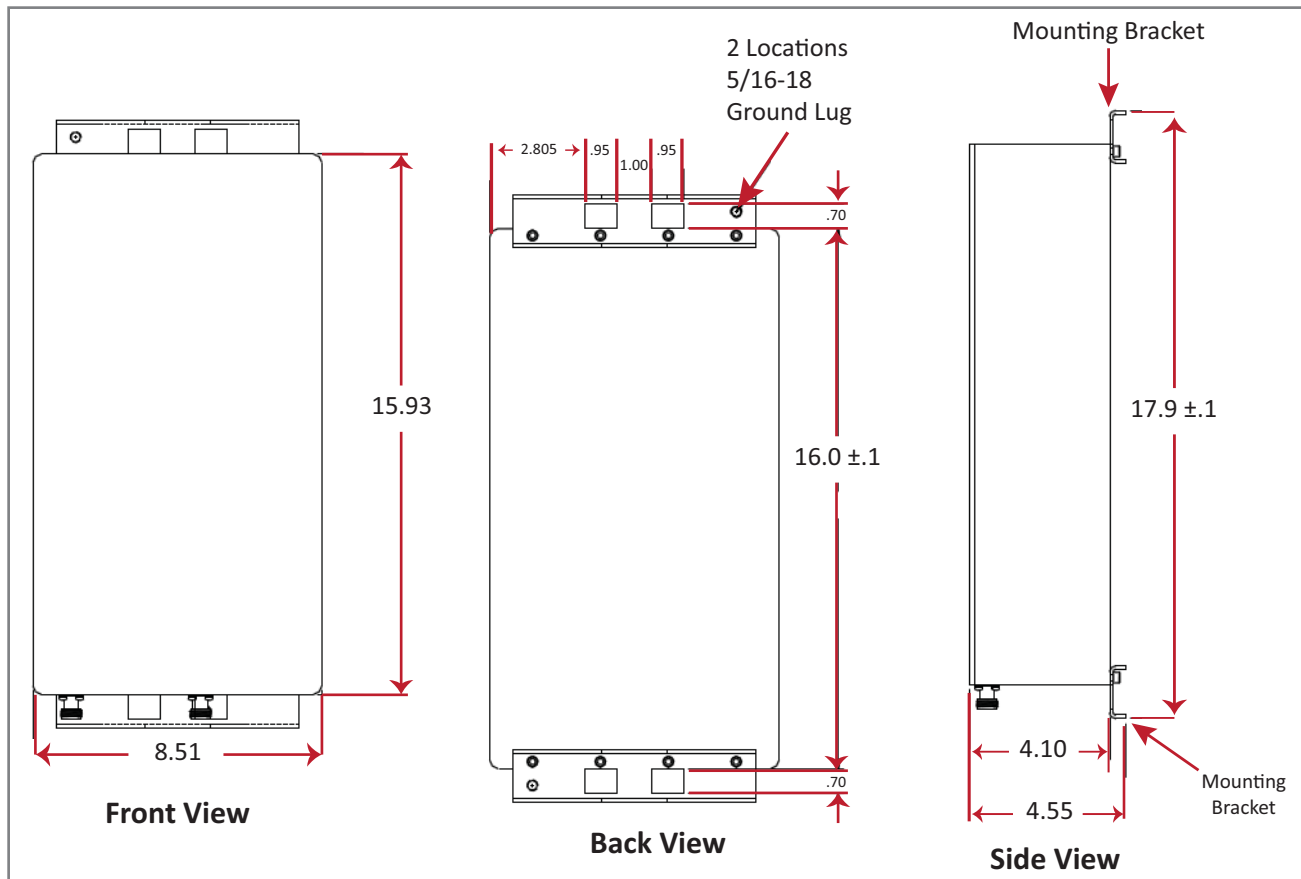
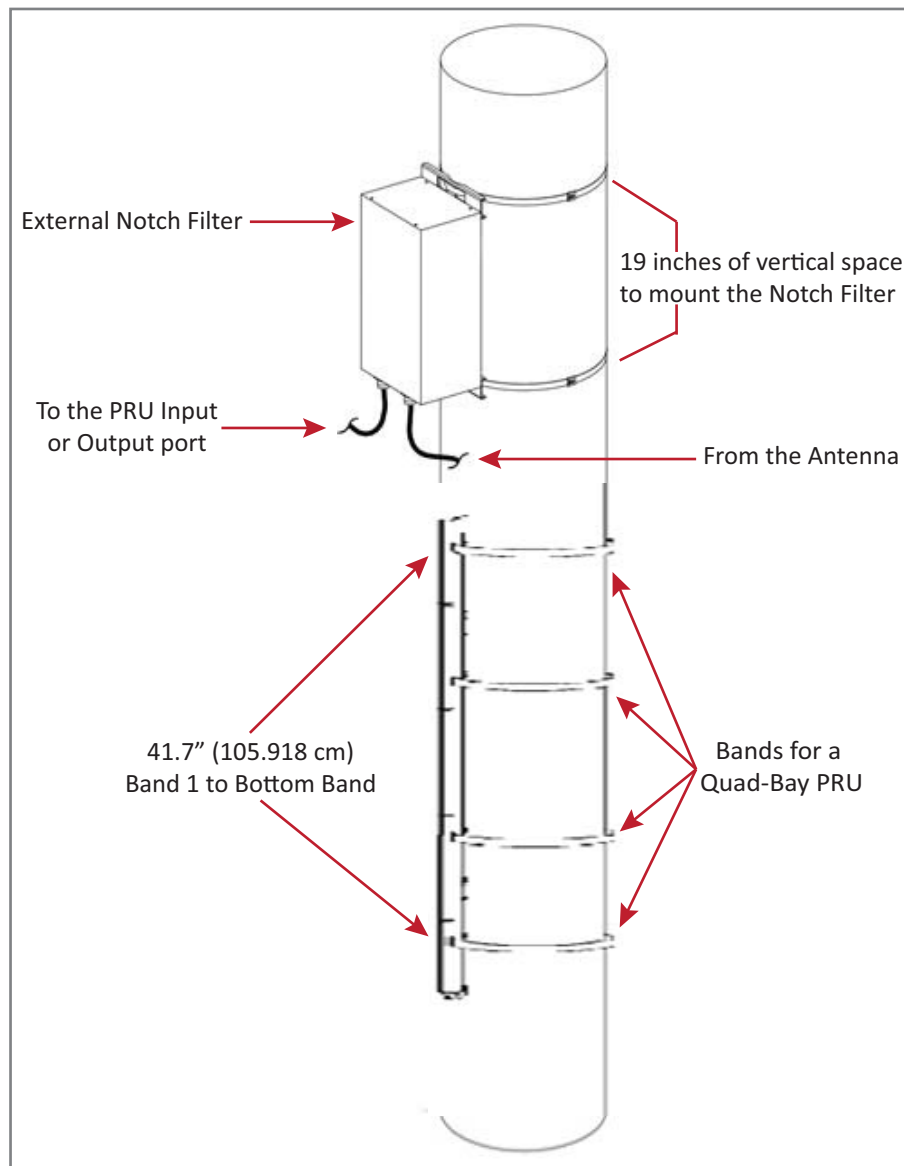

Figure 35. Notch Filter Mounting Dimensions
Figure 36. Pole Mounting a Quad-Bay PRU with a Notch Filter
- The Notch Filter and its mounting brackets requires 19 inches of vertical space above the PRU (see Figure 35 on page 115 and Figure 36 on page 116).
Figure 35 provides the dimensions required to create a mounting template. (For full technical specifications, see Table 26 on page 122.)
Figure 36 provides an example of how the dimensions required to mount the Notch Filter with a Quad-Bay PRU.